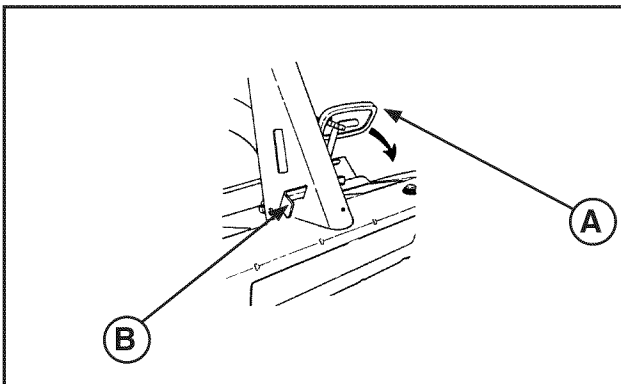

FIGURE 11
1. To set the parking brake, press the clutch/brake pedal (**B**, Figure 11) all the way down, slide the parking brake latch (**A**) all the way in, and release the clutch/brake pedal. A detent in the parking brake latch will keep the parking brake engaged.